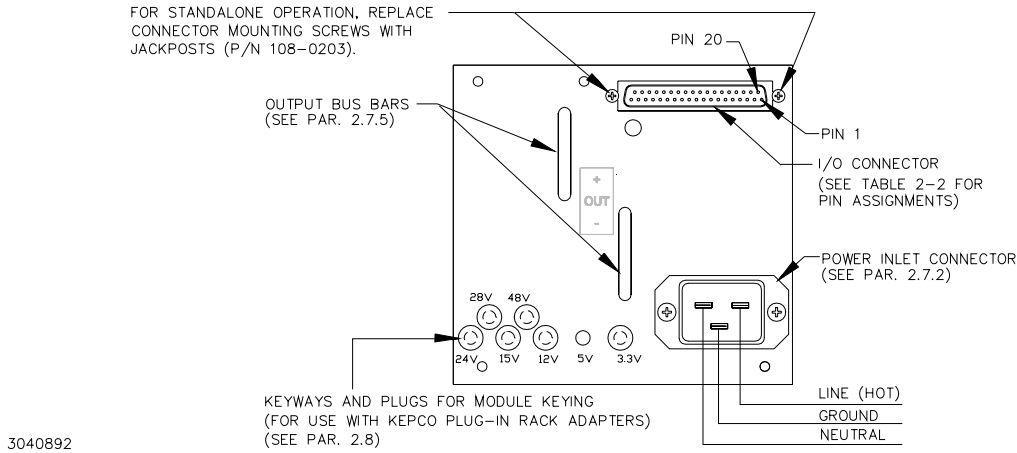

FIGURE 2-3. HSP SERIES REAR PANEL CONNECTIONS
c) **Rear Panel:** Refer to Figure 2-3 and Table 2-1.
The rear panel of the HSP power supply is equipped with an IEC 320 style recessed power inlet connector which provides interface to a 3-wire safety line cord via a polarized mating plug. Kepeco offers as accessories (see Table 1-3) both a user-wired mating connector and a prewired linecord set, the latter configured for North American applications. Terminal assignment follows internationally accepted conventions (see Figure 2-3). It is the user's responsibility to ensure that all applicable local codes for source power wiring are met.